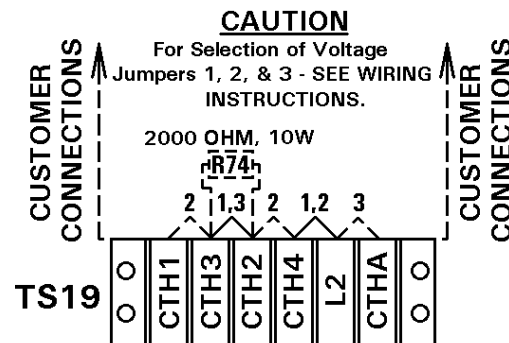

Figure 4.1.1 Voltage Operation jumpers settings
1. **Control Transformer:** Jumpers on TS1-CTH1, TS1-CTH3, TS1-CTH2, and TS1-CTH4 must be configured to match the line voltage. For TS1 Wiring, see Figure 4.1.1.
2. **Sense Transformer:** Jumpers on TS1-H1, TS1-H3, TS1-H2, and TS1-H4 must be configured to match the line voltage. For TS1 Wiring, see Figure 4.1.1.